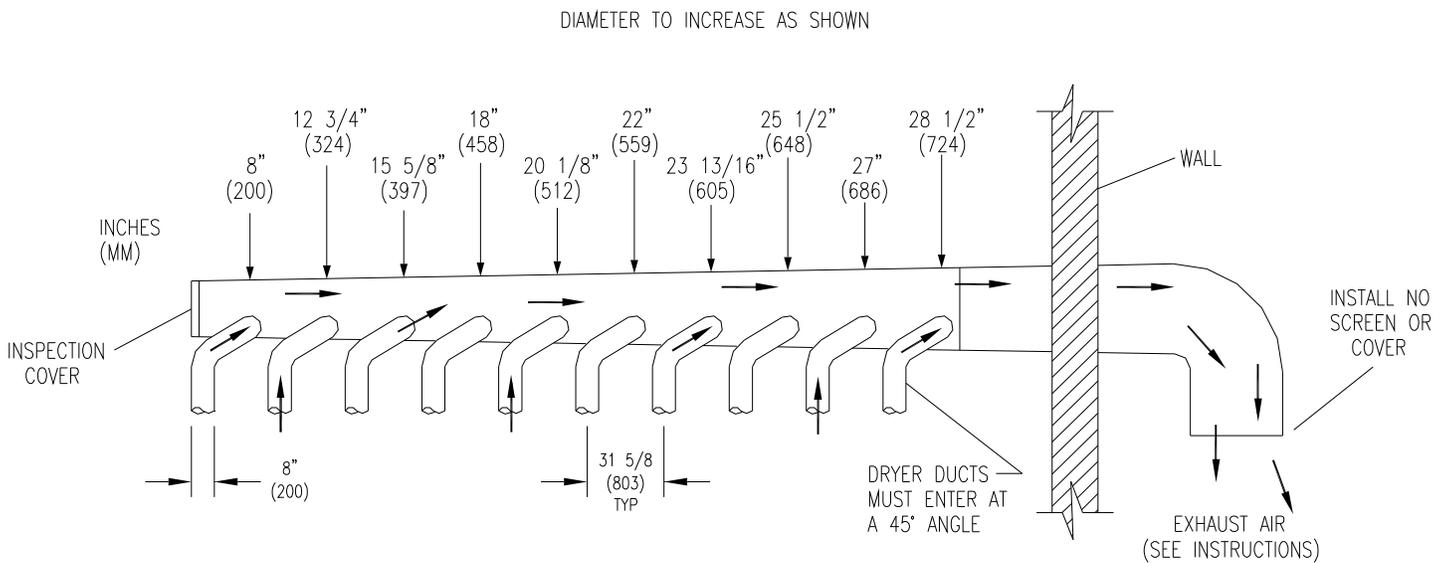

FIGURE 3- Dryer Exhausting Using A Main Discharge Duct.
- EXHAUST INSTALLATION. (Refer to Figure 3) Exhausting of the dryer(s) should be planned and constructed so that no air restrictions occur. Any restriction due to pipe size or type of installation can cause slow drying time, excessive heat, and lint in the room.
Installation of several dryers, where a main discharge duct is necessary, will need the following considerations for installation (see Figure 3). Individual 8" (200 mm) exhaust ducts from each dryer should enter main discharge duct at a 45-degree angle in the direction of discharge airflow.
NOTE: Never install the individual ducts at a right angle into the main discharge duct. The individual ducts from the dryers can enter at the sides or bottom of the main discharge duct. Figure 3 indicates the various round main duct diameters to use with the individual dryer ducts. The main duct can be rectangular or round, provided adequate airflow is maintained. The total exhausting (main discharge duct plus duct outlet from the dryer) should not exceed the equivalent of 14 ft. (4.25 m) and two elbows. The diameter of the main discharge duct at the last dryer must be maintained to exhaust end.